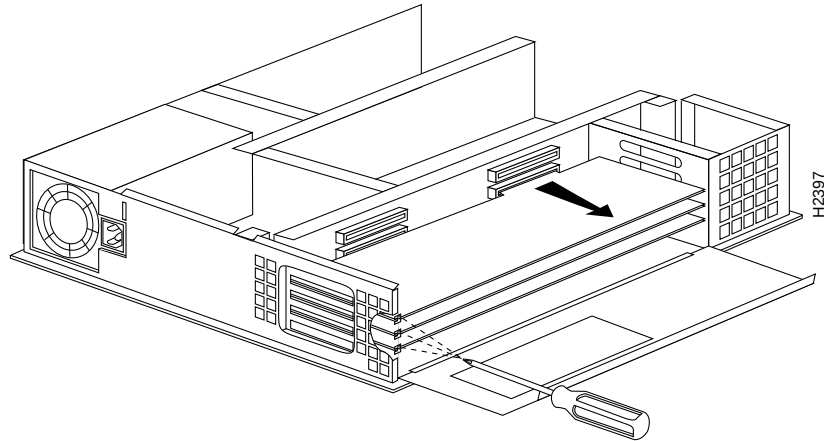

Figure 4-4 Removing the EISA Slot Cover
Step 4 Remove the slot cover to expose the desired EISA slot. The EISA slots are numbered at the top 1, through 4. Use the slot cover screws to secure the adapter. (See Figure 4-4.)